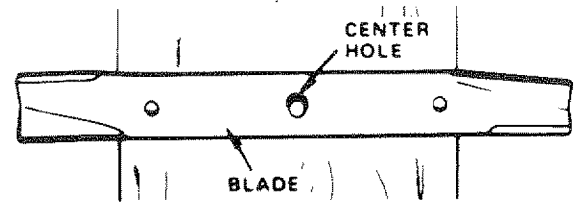

FIGURE 20
- To check blade balance, drive a nail into a beam or wall. Leave about one inch (2.54 cm) of the straight nail exposed. Place center hole of clean blade over the head of the nail (Fig. 20).
NOTE: CENTER HOLE OF BLADE ON NAIL. IF BLADE IS PROPERLY BALANCED, BLADE SHOULD REMAIN IN POSITION SHOWN IN FIG. 20. IF EITHER END OF THE BLADE MOVES DOWNWARD, BLADE IS NOT BALANCED. SHARPEN THE HEAVY END UNTIL BLADE IS BALANCED.